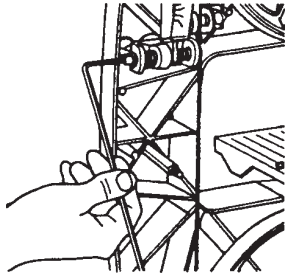

Fig. B-24
3. Remove the table leveling bolt. (89).
5. Release the blade tension by turning the blade tension screw counterclockwise with your 5/32" Allen wrench until the blade goes slack, as seen in Fig. B-24.